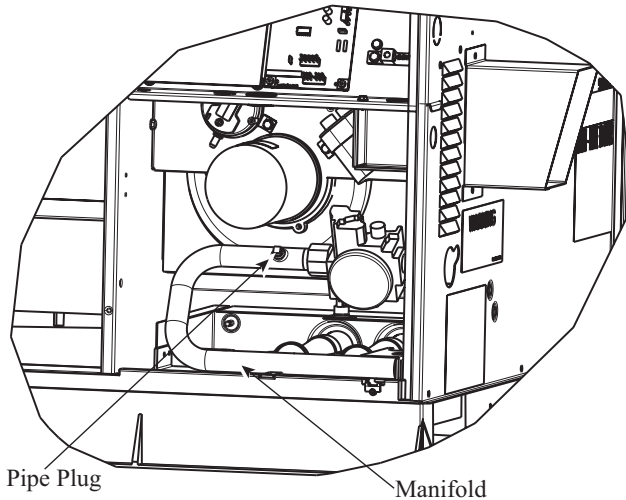

Fig. 24 – Burner Assembly
2. Remove pipe plug on manifold (See Fig. 24) and connect manometer. Turn on gas supply to unit.
4. Turn off gas supply to unit. Remove manometer from pressure tap and replace pipe plug on gas valve. (See Fig. 24.) Turn on gas to unit and check for leaks.